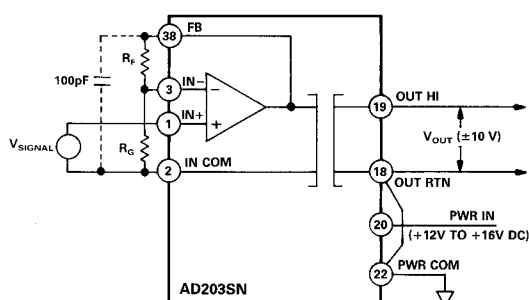

Figure 17. Input Configuration for a Gain Greater than 1
**Input Configuration for a Gain Greater Than 1 ( $G > 1$ ).** When small input signal levels must be amplified and isolated, Figure 17 shows how to get a gain greater than 1 while continuing to preserve a very high input impedance.
- $V_O$  = Output Voltage (V)
- $V_{SIG}$  = Input Signal Voltage (V)
**Note on the 100 pF Capacitor.** Whenever a gain of 50 V/V or greater is required, a 100 pF capacitor from the FB (input op amp feedback) terminal to the IN COM (input common) terminal, as shown with the dotted lines in Figure 17, is highly recommended. The capacitor acts to filter out switching noise and will minimize the isolator's nonlinearity parameter.